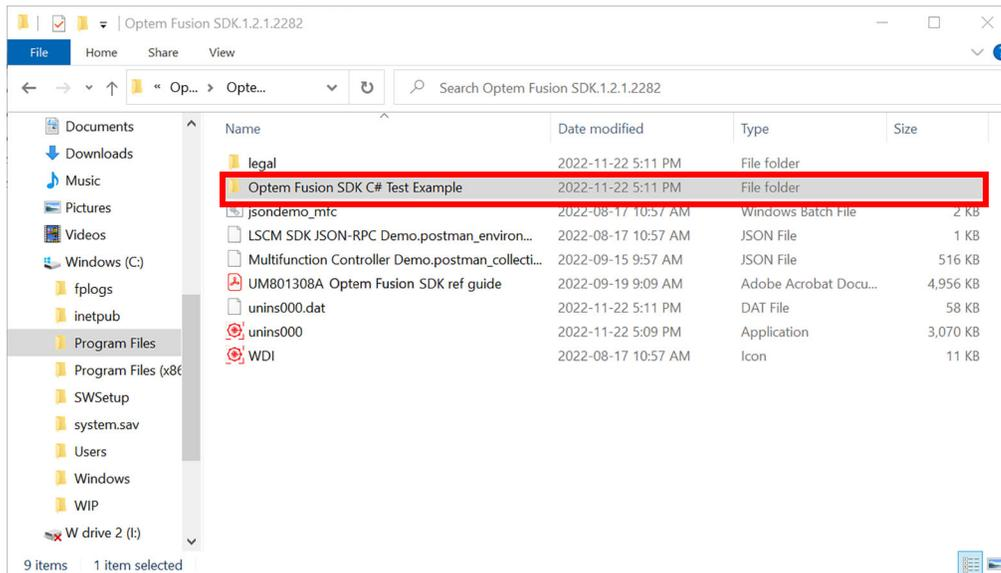

Figure 46 C# Test Example Folder Location
1. Locate the C# test example folder (outlined in red in Figure 46), in the **C:\Program Files\WdiDevice\Optem Fusion\Optem Fusion SDK.x.x.x.xxxx** folder.